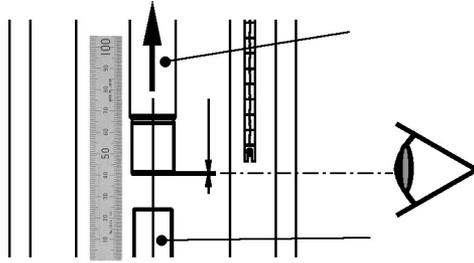

Figure 21
2. Connect manual loading panel tubing to the Top Plate (17).
4. Reconnect manual loading panel tubing from the Top Plate (17) to the Yoke (1), which is integrated into the bottom plate connection.
5. Retract the actuator stem either pneumatically or with a handwheel approximately .1" (2mm) using the visual stroke scale as shown in Figure 21.
2. Connect manual loading panel tubing to the top plate (17).
4. Extend the actuator stem either pneumatically or with a handwheel approximately .1" (2mm) using the visual stroke scale as shown in Figure 21.
5. Assemble the Split Clamp (22).
2. Connect manual loading panel tubing to the yoke (1), which is integrated into the bottom plate connection.
3. Retract the actuator stem either pneumatically or with a handwheel approximately .1" (2mm) using the visual stroke scale as shown in Figure 21.
4. Assemble the Split Clamp (22).